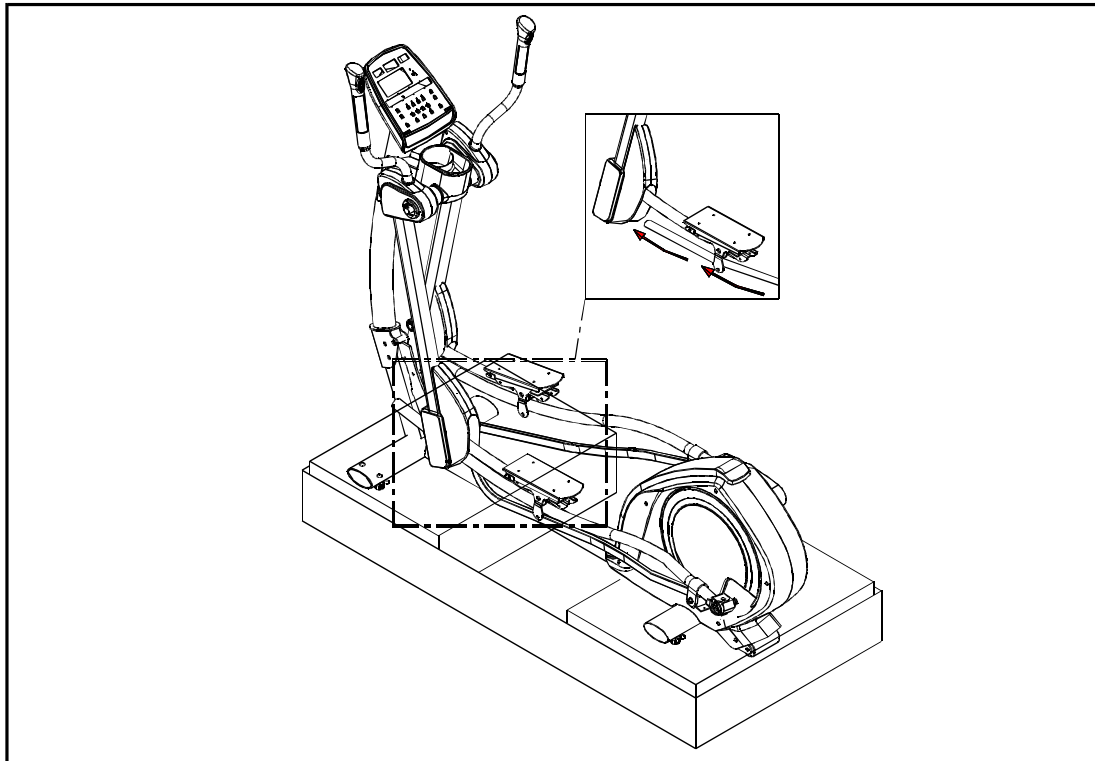

Fig.2
**STEP 3.** Then, raise the stride support Assembly ① and pedal carriage ②. Place the tip of the foot pad surface on the ground ③. Do this step on the other side of the unit as well.
**STEP 5.** Slip the Glide Rail into place under the Pedal Carriage and also on the roller on the stride support Assembly. (See Fig 2)